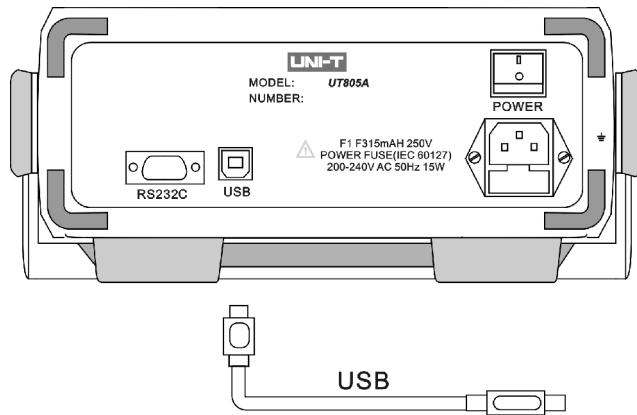

Figure 16
A. Connection of instrument and computer (See Figure 16)